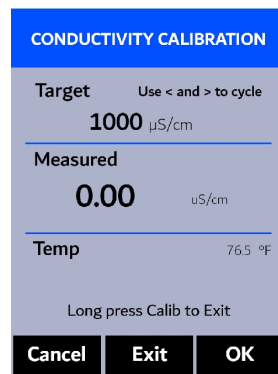
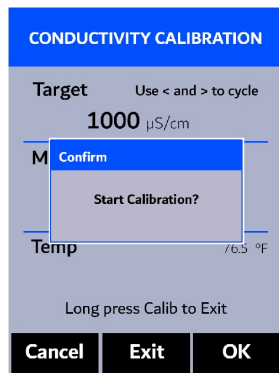

Figure 22.
Figure 23.
6. Use **(<)** and **(>)** to cycle to the desired calibration, for example, 1,000  $\mu\text{S}$  (Figure 22). The standard conductivity selections are 10, 100, 1,000, 7,000, and 50,000  $\mu\text{S}$ .
**\*NOTE\*** To exit the calibration procedure entirely, long press **Calib (OK)**
7. Press **Calib (OK)** to confirm the specific conductivity calibration desired.
8. The display updates as shown in Figure 23 and the user can choose one of three options: